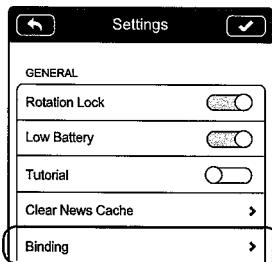
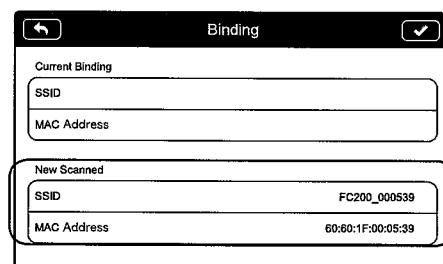
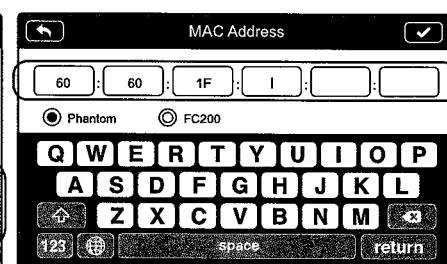

Figure 36
Figure 38
Figure 39
- (1) Power on the camera and Range Extender.
- (2) Approximately 30 seconds later, press the Binding Reset Button on the Range Extender with a pin until the SYSTEM Indicator turns off. The Range Extender will then restart automatically.
- (3) Approximately 30 seconds later, the SYSTEM Indicator will start to blink green, indicating that the Range Extender is ready for binding.
- (4) Enable Wi-Fi on your mobile device then select "Phantom\_XXXXXX" the (SSID of your Range Extender) from the Wi-Fi network list.
- (5) Run the DJI VISION App then tap -> Settings -> General -> Binding (Figure 36). Select 'Scan QR Code' to scan the camera QR code on the bottom of aircraft (Figure 37). Get the camera SSID (E.g. FC200\_xxxxxx) and the MAC address (Figure 38). You can also skip the scan and enter the camera MAC address directly (Figure 39). The MAC address can be found on the camera label.
- (6) Tap the tick  in the top right corner. The Range Extender should automatically restart. Binding is now complete.